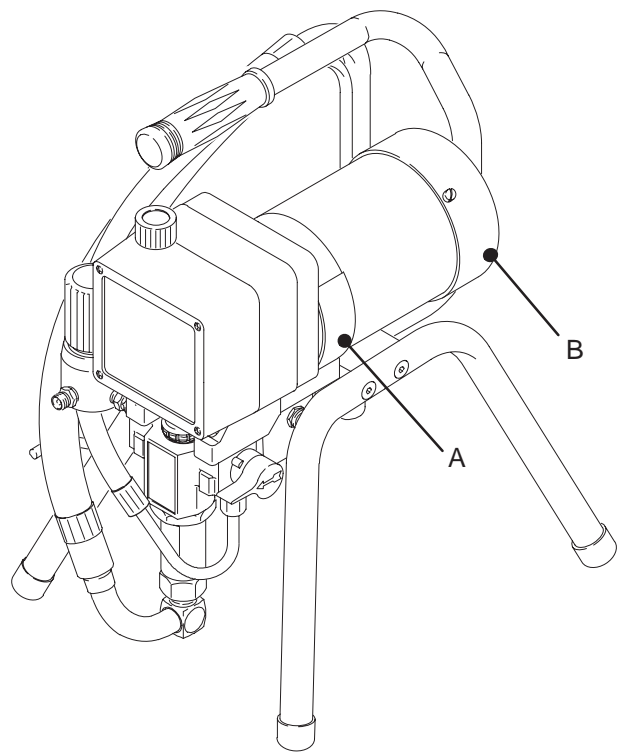

Fig. 4 Model 231584 Shown
Remove the motor brush inspection covers (A). See Fig. 4.
Remove the fan cover (B). See Fig. 4.